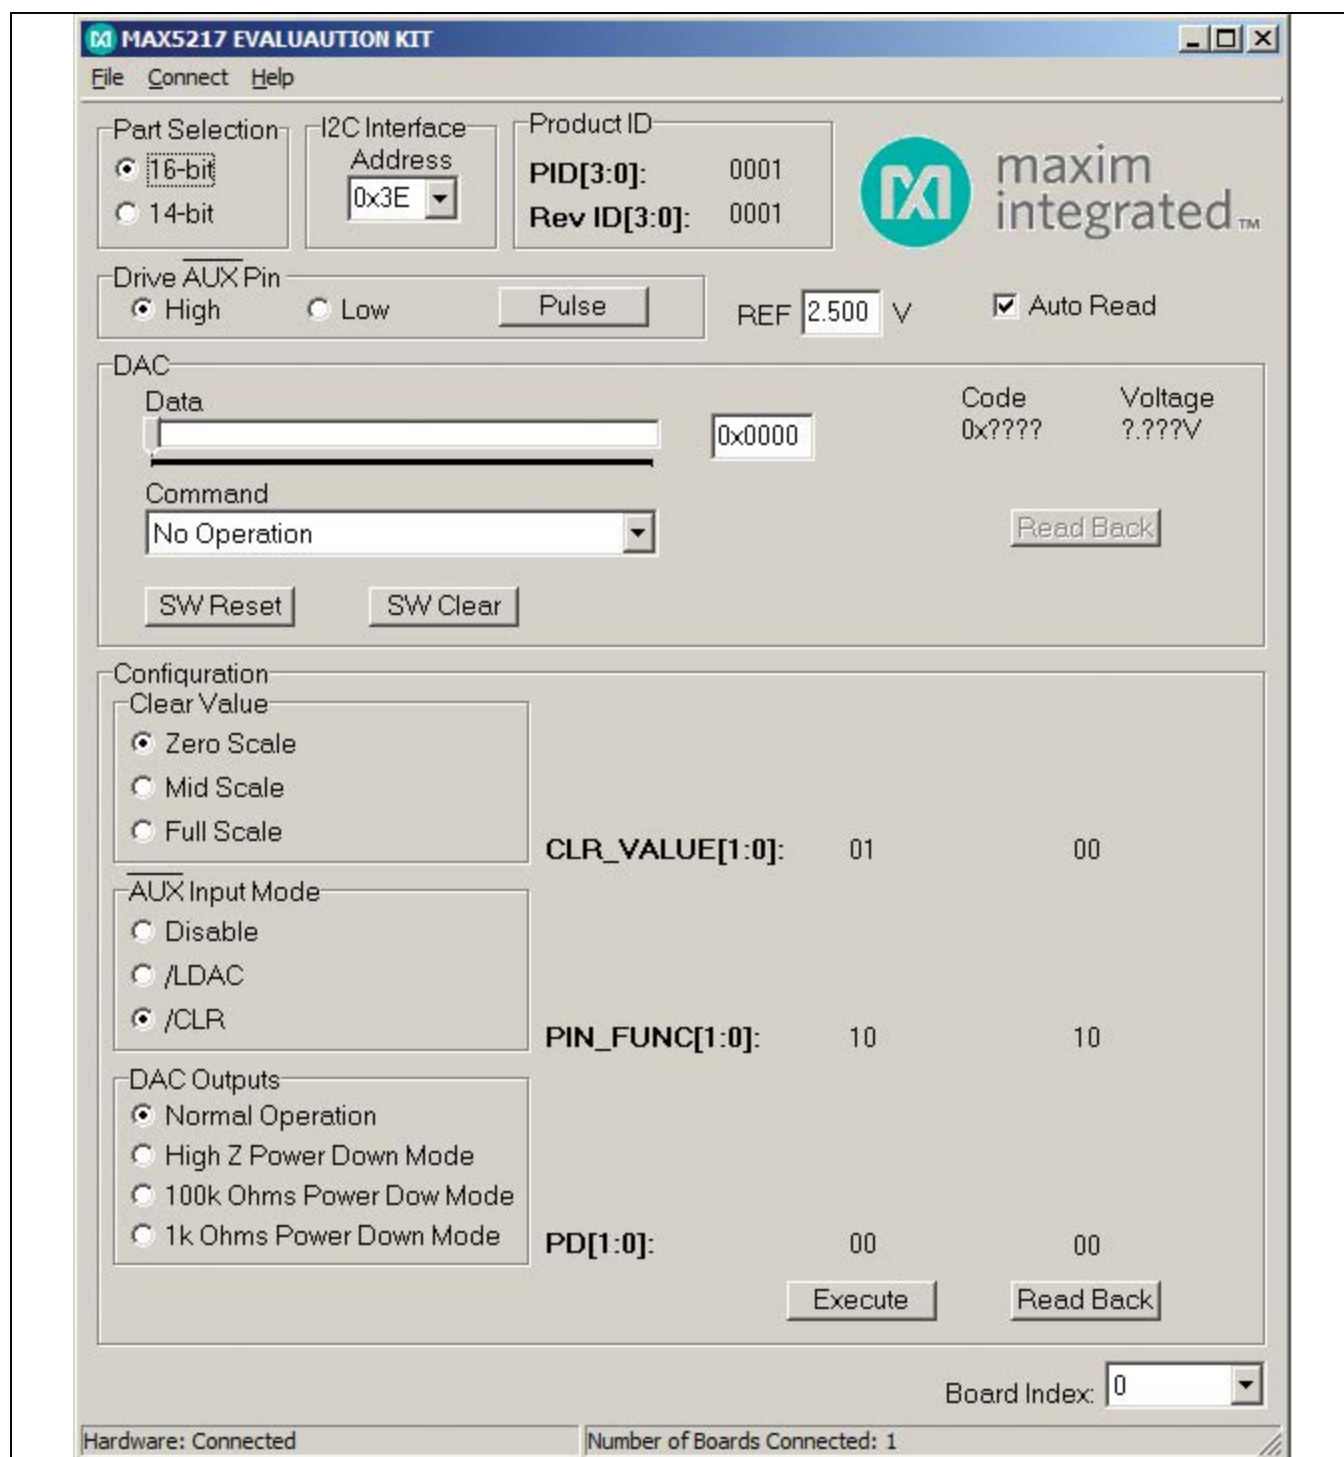

Figure 2. MAX5217 EV Kit Software Main Window
- 6) Start the EV kit software by opening its icon in the **Start | Programs** menu. The EV kit software main window appears, as shown in Figure 2.